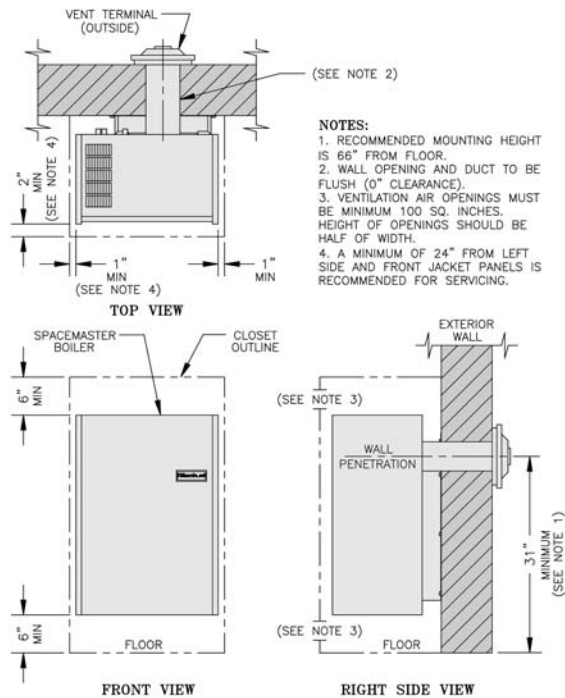

Figure 3
Boiler should be positioned to provide minimum side clearances of 1", minimum top clearance of 6", minimum front clearance of 2", minimum rear and flue system clearances of 0" and minimum floor clearance of 6" between boiler surfaces and any combustible materials. (See Figure 3).
NOTE: depending on ceiling height, 6" combustible clearance height from jacket top panel to ceiling must be maintained. (See Figure 3).
Minimum listed clearances from combustible materials for non-closet installation or closet installation. (See Figure 3).
- b. Ventilation — When the boiler is installed in an unconfined space in a building of normal or unusually tight construction, there is no additional provision required to insure adequate air for ventilation of the jacket or control compartment. When the boiler is installed in a confined space, two openings in a wall or door to an adjoining interior area which has adequate air supply shall be provided. One opening should be near the floor and the other near the ceiling. Each shall have a free area of not less than one (1) square inch for each thousand (1000) BTU input to all appliances in the boiler room. (See Figure 3).